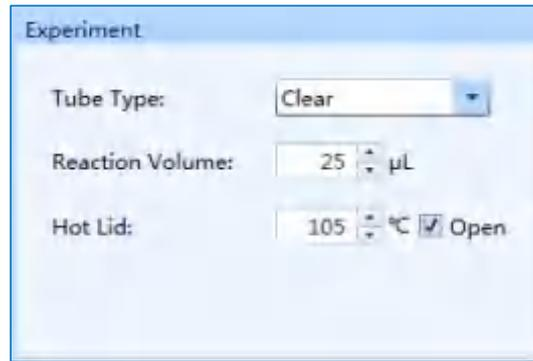

Figure D-4.2 Experiment editing area
2. Experiment Editing Area: user can edit the relevant parameters of the current experiment in the experiment editing area, as shown in figure D-4.2.